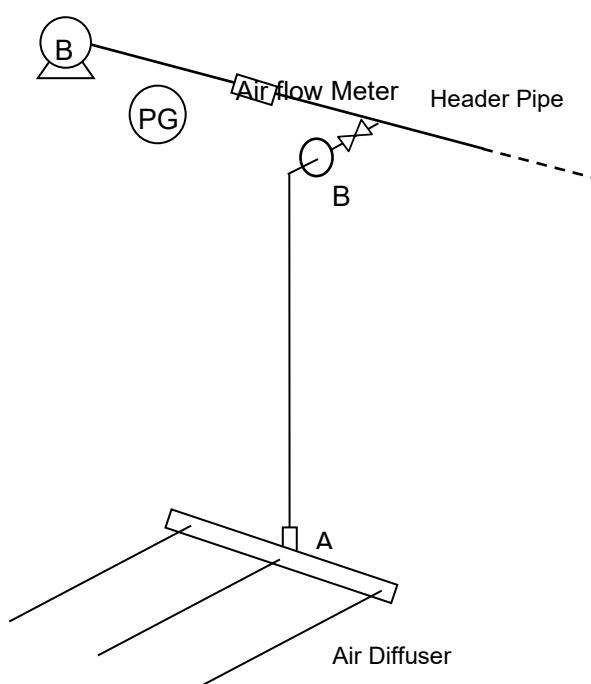

Fig.IV-9a Example of Piping to Air Diffusers for NHPA050-1F/100-1F
(1) Pipe Arrangement for the Air Diffusers
The pipe from the air supply device (blower) is connected to the air diffusers with the screws (A) as shown in Fig.IV-9a, b, and c. It is recommended installing the flange connection (B) above the liquid surface on this line in order to disjoint the piping in the case of lifting the modules.